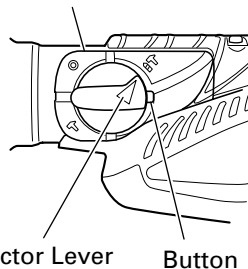

Fig. 6
(1) Switching to “rotation + hammering”
- (b) Align ▲ of the selector lever and ⚡ of the lever holder as illustrated in Fig. 6.